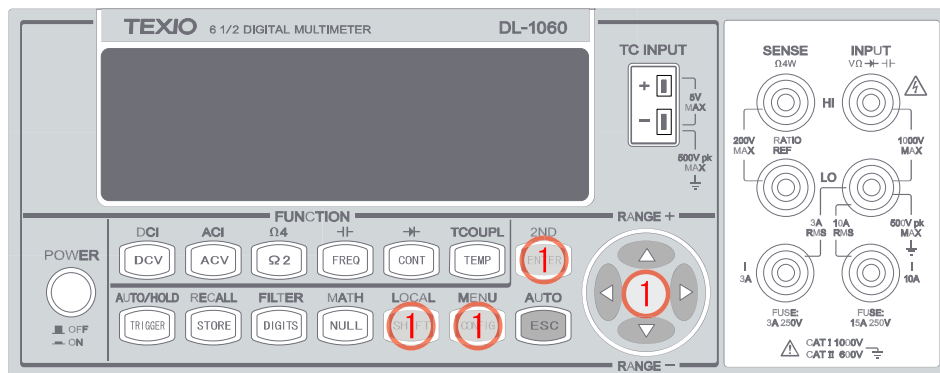

Figure 3-31
1. Do the procedure SHIFT + CONFIG buttons > SYSTEM > BEEP > ON/OFF > ENTER to enable/disable the beep as shown in **Figure 3-31**.